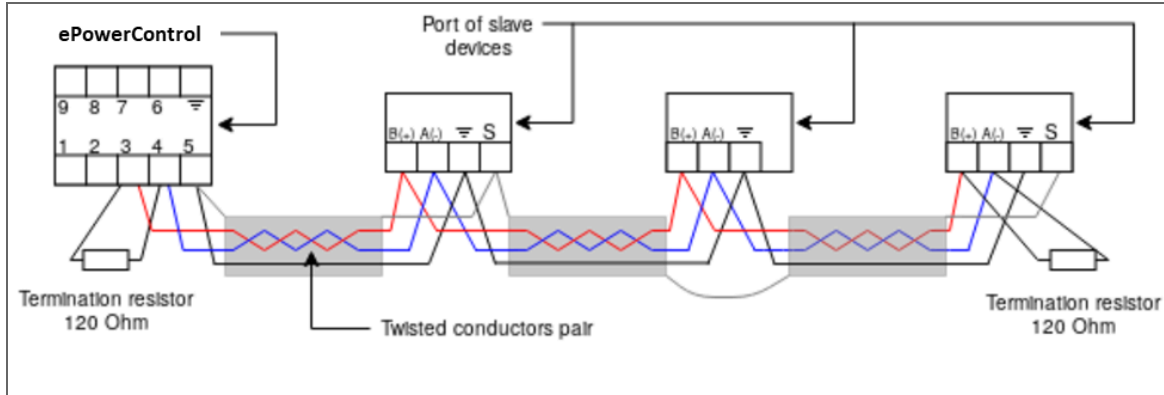

Fig. 5: Daisy-chain for RS-485 serial communication
- If an Ethernet switch is not used, devices communicating via Modbus TCP should be directly connected to LAN port 1 on the ePowerControl ES (see Figure 4) or on LAN port 1, 2, 3 on the ePowerControl ES+ (see Figure 5).